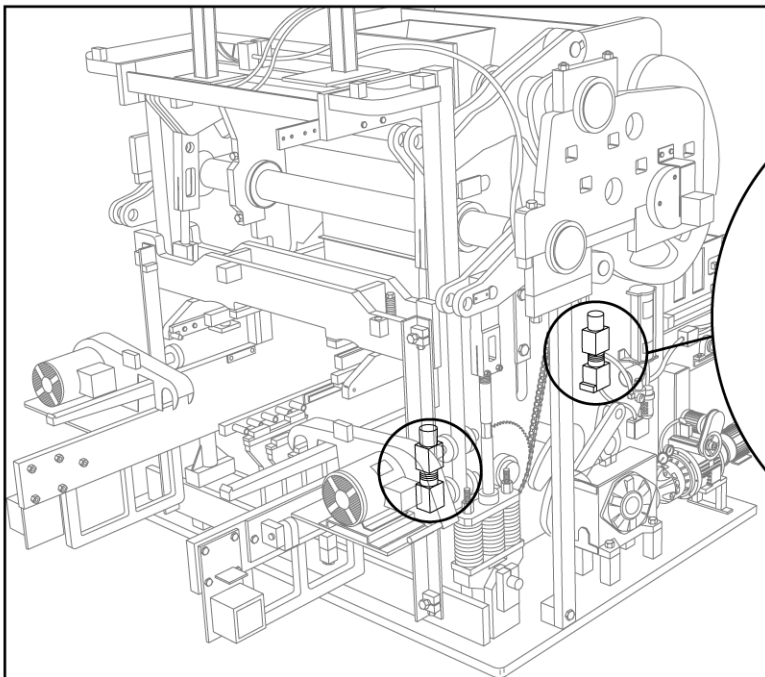

Figure 4.6 BOLTS AT ALL 4 CORNERS
- b. Loosen bolts at all 4 corners that secure mold throat assembly (See figures 4.6 and 4.7). Remove top spacers.